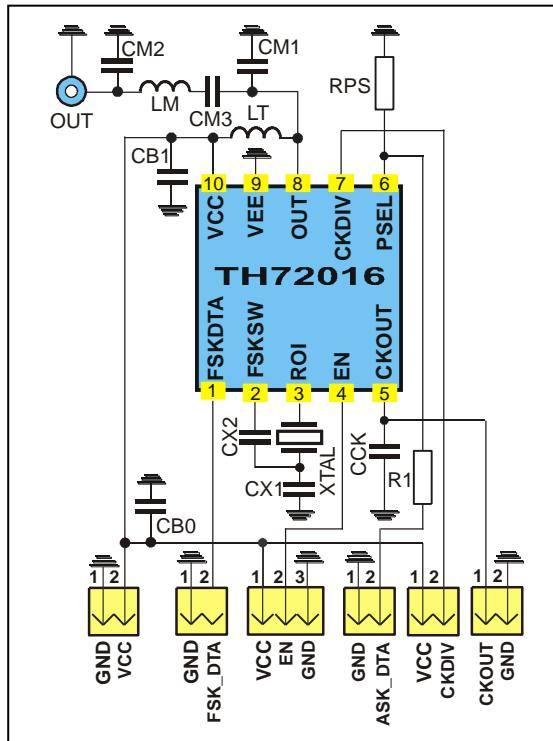

Fig. 6: Test circuit for FSK and ASK with 50Ω matching network
typical values at TA = 23 °C and VCC = 3 V; test circuit shown in Fig. 6, fc = 433.92 MHz
typical values at TA = 23 °C and VCC = 3 V; test circuit shown in Fig. 6
5.1. Test circuit component list to Fig. 6